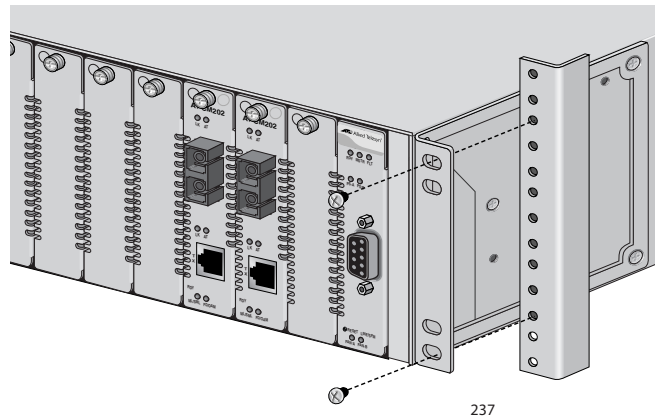

Figure 19. Mounting the AT-CV5000 Chassis in a 19-inch Rack
3. Mount the chassis in a 19-inch rack using appropriate screws (not provided), as shown in Figure 19.